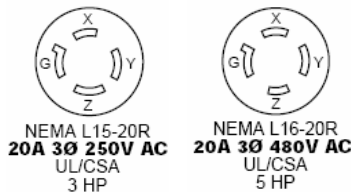

Figure 1: Plug Terminal Hook Up
3. Connect the 3Ø 230V, 60hz electrical power (Allowable range for the 230V Wils-Tronic is 3 phase, 180 to 264 Volts, 48 to 62 Hz) as shown in Table 1 to the receptacle using the diagram that comes with the plug and shown in Figure 1. Do not plug in the Wils-Tronic power cable into the receptacle at this time.